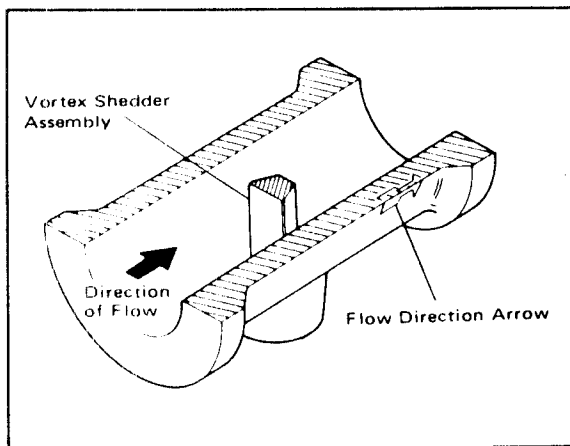

Figure 6-10. Mounting the Vortex Shedder Assembly.
- c. The vortex shedder assembly is installed as illustrated in Figure 6-10.